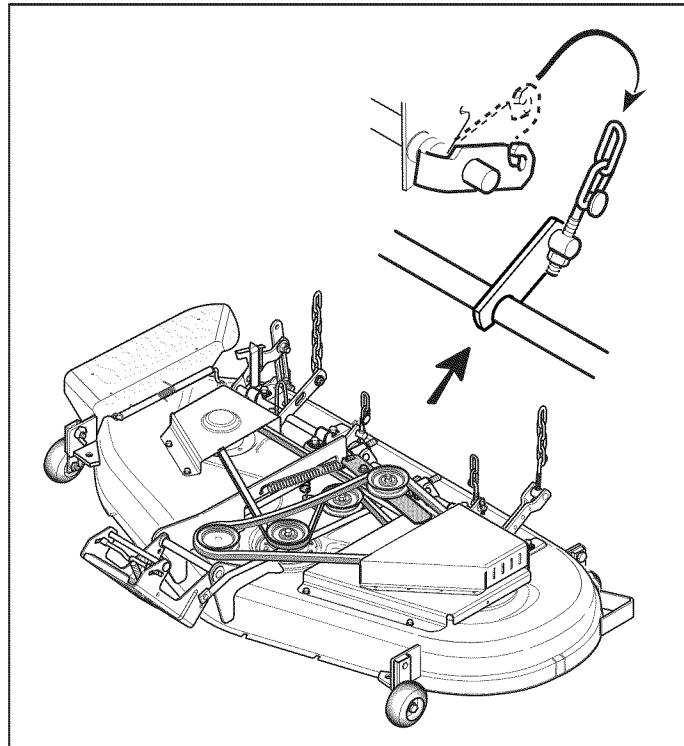

Figure 19
- Disconnect the attachment lift chain from the hook in tractor frame (see Figure 19). Repeat for the other side.
4. Connect the attachment lift chain to the hook in tractor frame (see Figure 19). Repeat for the other side.